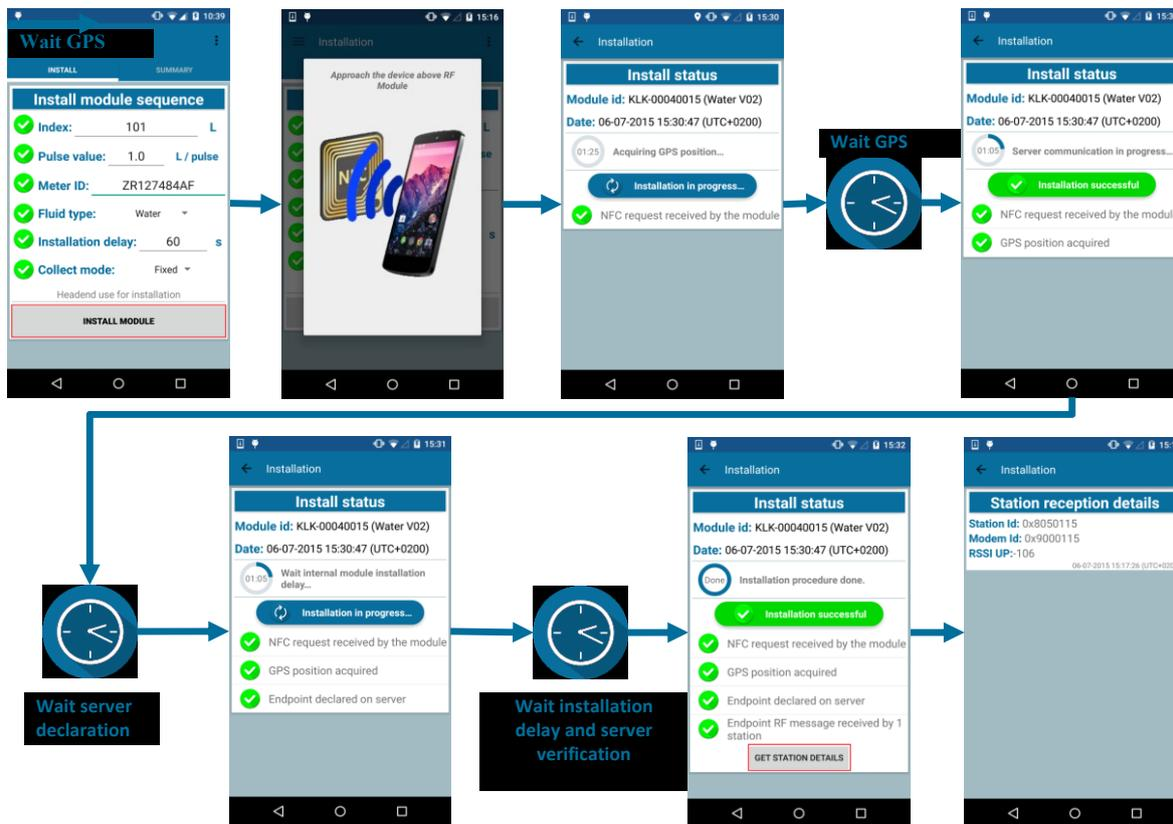

Figure 12: Installation procedure
Note: the status of each step is provided by icons (see Figure 12).
- It is then possible to get the information about the stations that have received the installation message by pressing the button “Get station details” (see Figure 12).